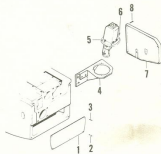

Figure 4. Lubrication Pump Removal
Legend - Figure 4
20. REMOVING LUBRICATION PUMP (Figure 4)